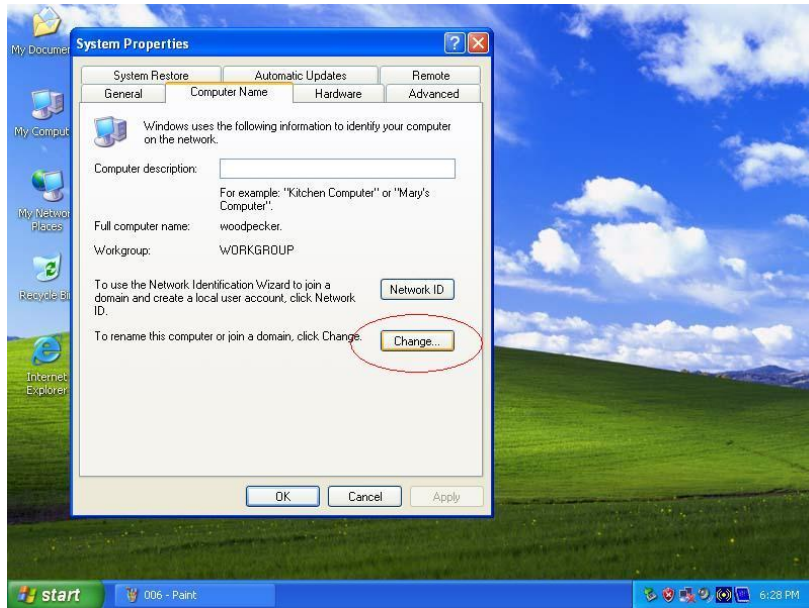

Figure 1.2
1.2 Go to “Computer Name” and click on “Change” See Figure 1.2